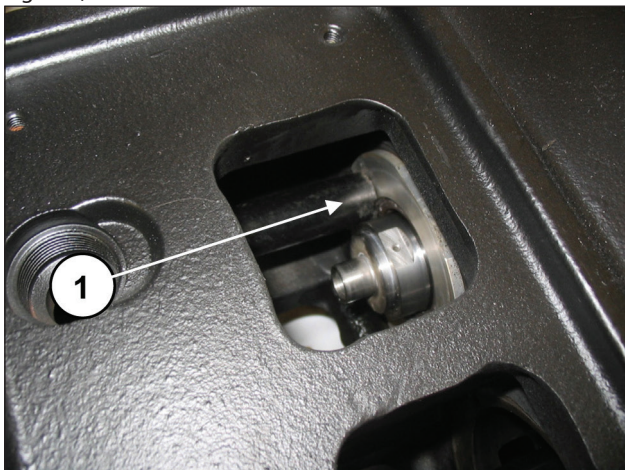
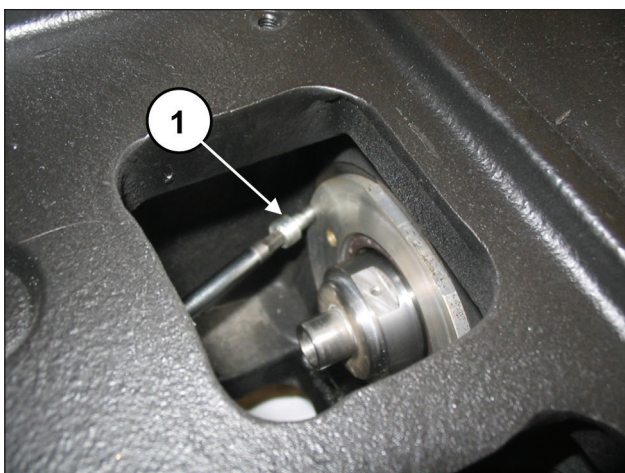

Fig. 143
Fig. 142
Make sure that the cover completely enters its seat (pos. ①, Fig. 142) being careful not to damage the lip of the seal ring. Screw in the oil seal covers using 2 x M6x14 screws (pos. ①, Fig. 143).